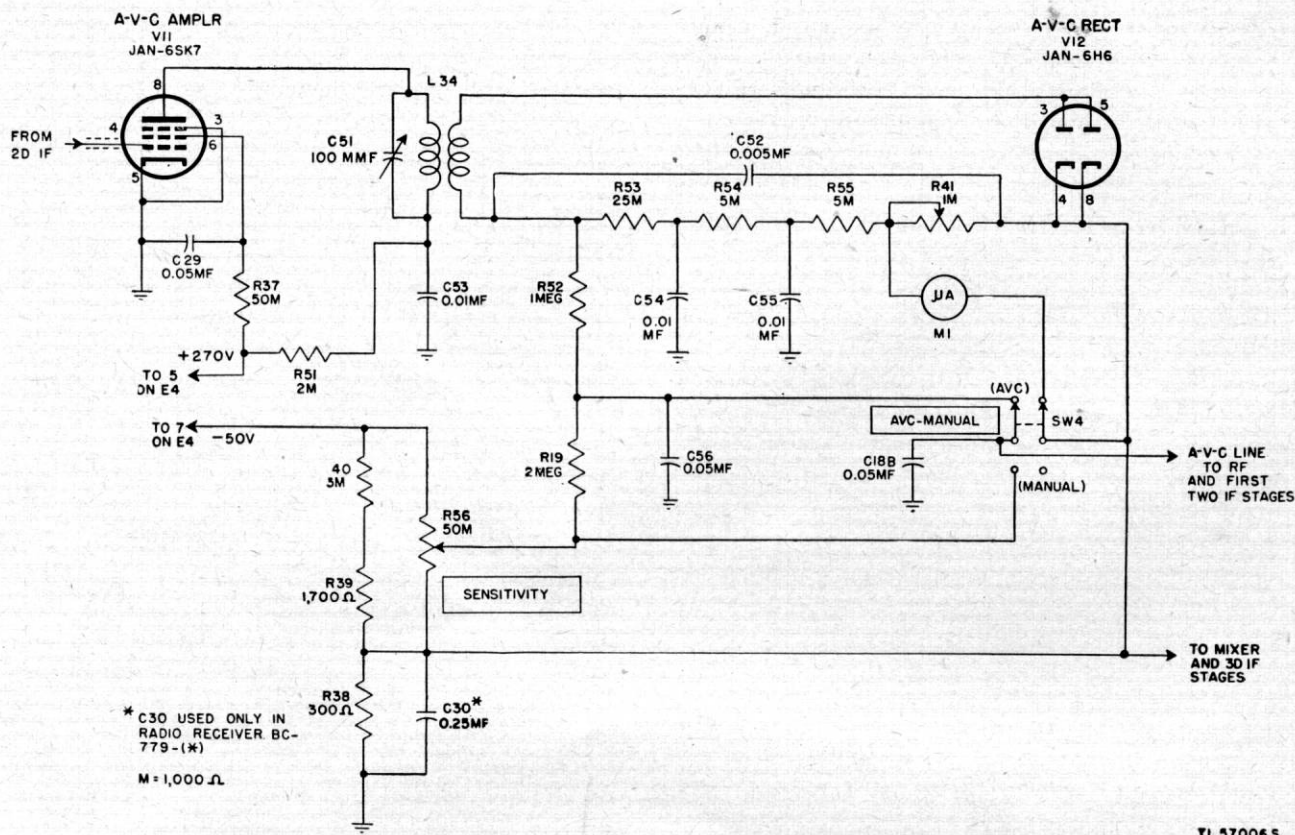

Figure 31. Radio Receiver BC-779-B, functional diagram of a-v-c stages.
a. *MIXER TUBE JAN-6L7.* For simplicity, capacitor C71, main tuning ganged capacitor C1C, and band spread ganged capacitor C2C are represented as a single variable capacitor C across the inductance trimmed secondary of r-f transformer L18. Signal voltages across C are applied through 600-mmF capacitor C11 to signal grid G1 (top cap) of pentagrid mixer Tube JAN-6L7. Fixed bias from the voltage divider (fig. 31) is applied through a filter circuit (10,000-ohm resistor R10 and 0.01-mf capacitor C12) and 500,000-ohm grid resistor R9 to the signal grid. Screen grid G2 and G4 (pin 4) forms a screen about injection grid G3 (pin 5), and the h-f oscillator output is coupled through 95-mmF capacitor C13 to the injection grid. Since the screen grid shields the signal and injection grids from one another, the tube electron stream is modulated independently by the r-f and oscillator signals. Heterodyne action produces sum and difference frequencies in the mixer output. The primary of transformer T1 is tuned by C21 to the 465-kc *difference* frequency to which the i-f amplifier is also tuned. The i-f voltage across the secondary winding of transformer T1 is applied to the crystal filter.
65. A-V-C Circuit (fig. 31)
and to the control grid (pin 4) of the a-v-c amplifier stage V11 (fig. 31). V7 and V11 have a common grid circuit, including fixed bias. The suppressor and cathode of V11 are grounded; screen voltage is applied to pin 6 through 50,000-ohm series-dropping resistor R37; and the screen is bypassed by 0.05-mf capacitor C29. Plate (pin 8) voltage is applied through 2,000-ohm filter resistor R51 and the primary of transformer L34. The primary of L34 is tuned to 465 kc by 100-mmF capacitor C51, and capacitor C53 (0.01-mf) bypasses high frequencies to ground. The transformer secondary is untuned.